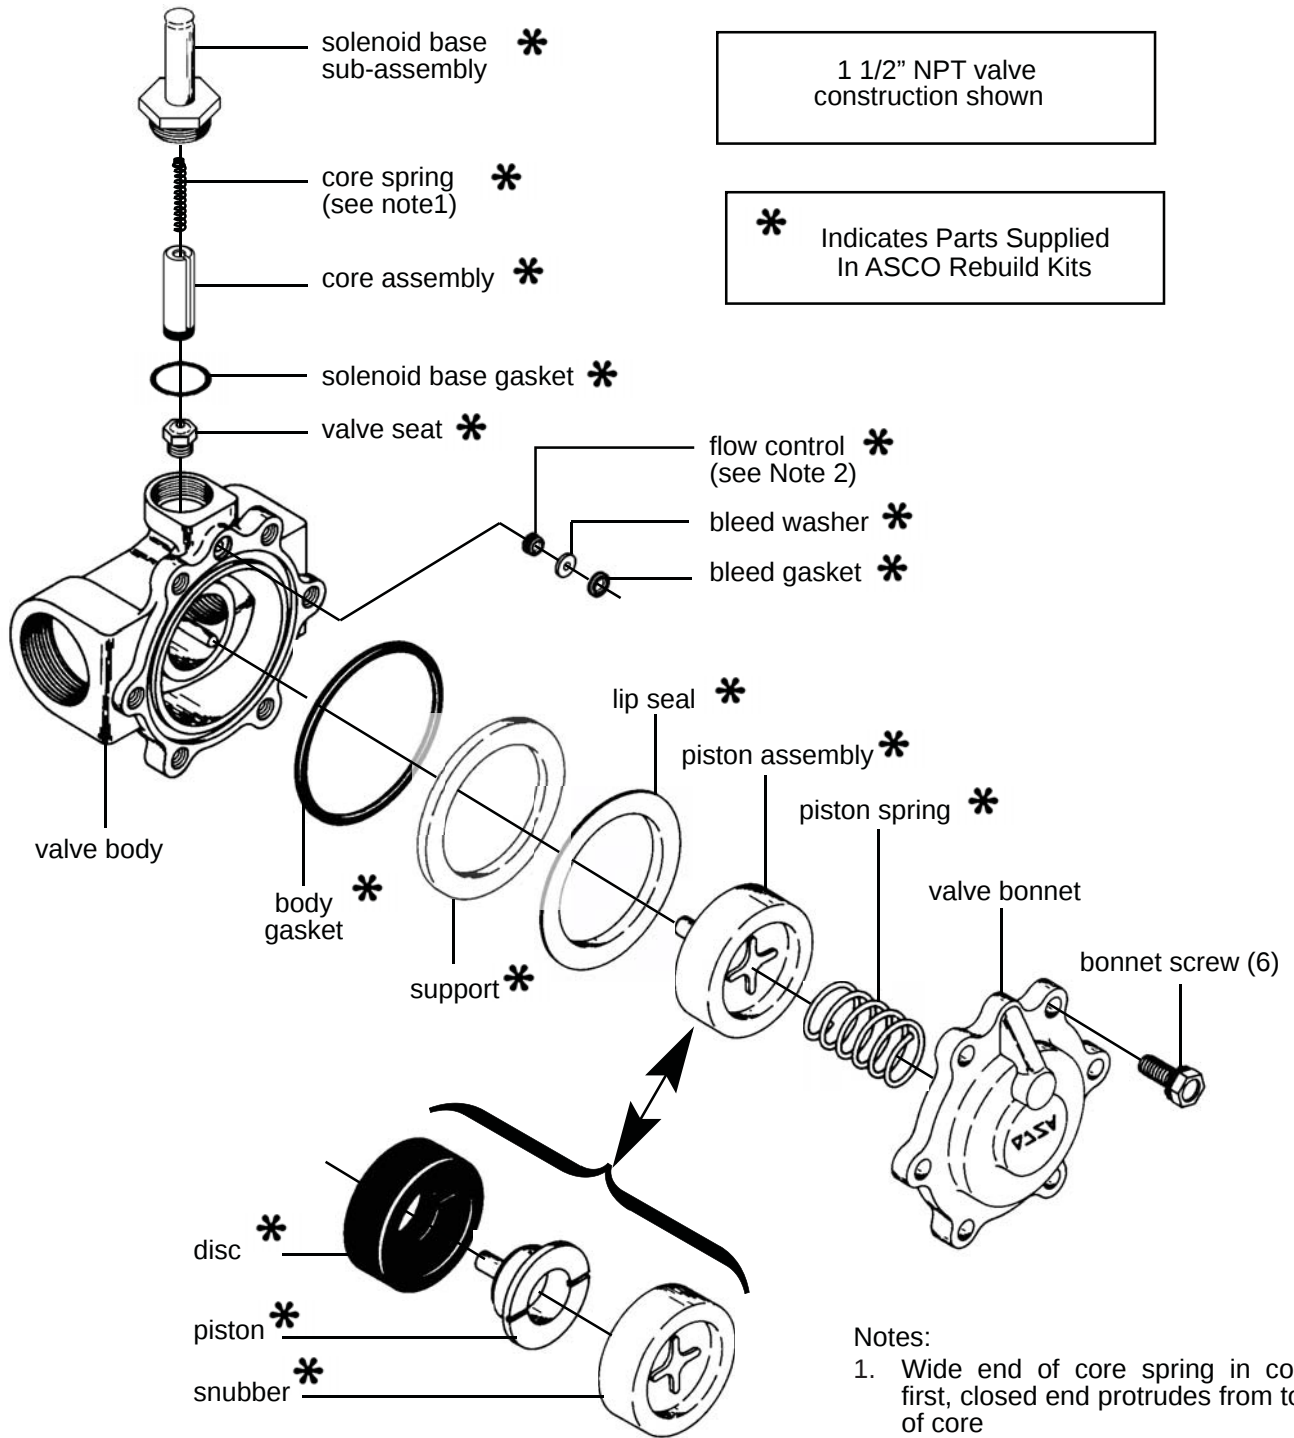
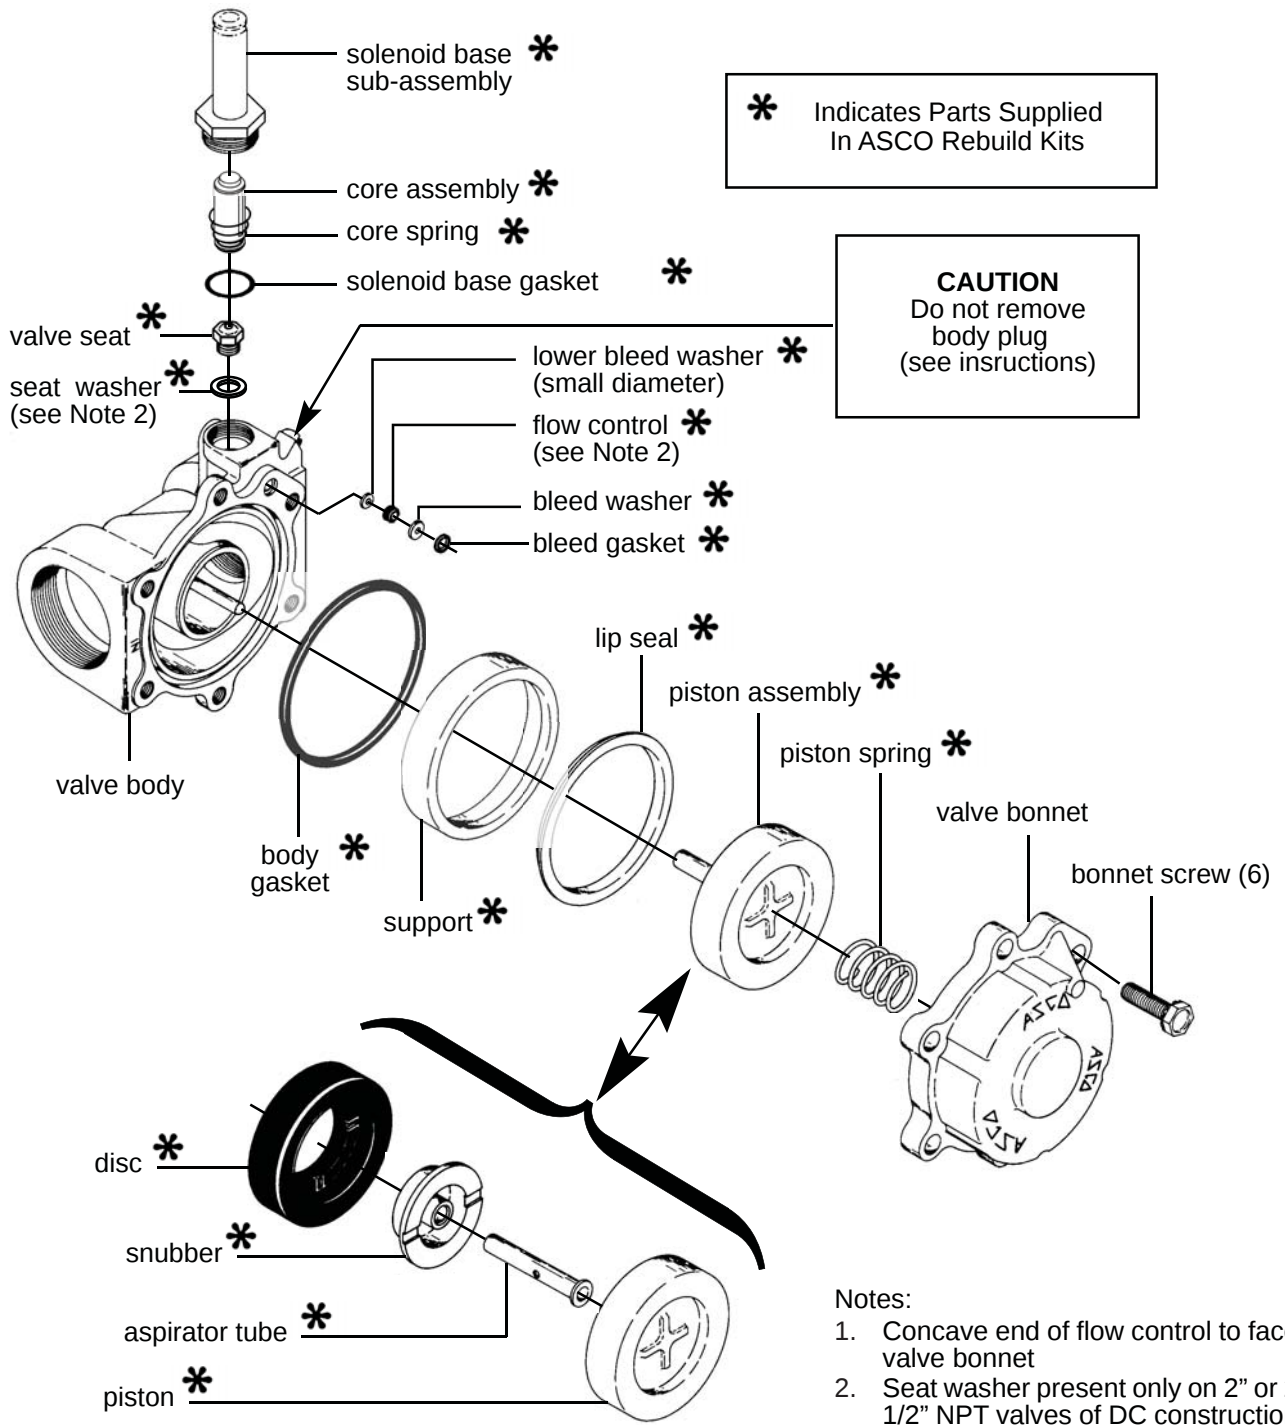

Figure 1. Series 8221 1", 1 1/4" or 1 1/2" NPT AC construction
Figure 2. Series 8221, 2" or 2 1/2" NPT DC construction
Note: Refer to Figure 1 for AC construction and 1", 1 1/4" or 1 1/2" NPT (pipe size). Refer to Figure 2 for DC Construction and 2" and 1 1/2" NPT (pipe size)
4. For normal maintenance (cleaning) it is not necessary to remove the valve seat. However, for valve seat removal use a 7/16" thin wall socket wrench. For DC Construction 2" or 2 1/2" NPT only (Figure 2), remove seat washer.
Note: For AC construction (Figure 1), position wide end of core spring in core first, closed (tapered) end protrudes from top of core.